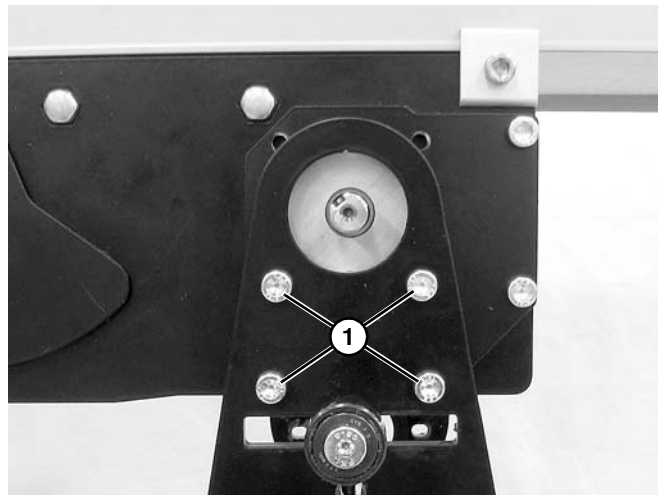

Figure 37
Figure 37 shows a vertically mounted gearmotor. Horizontally mounted gearmotor is similar.
3. Remove four mounting screws (**Figure 37, item 1**) and remove gearmotor.